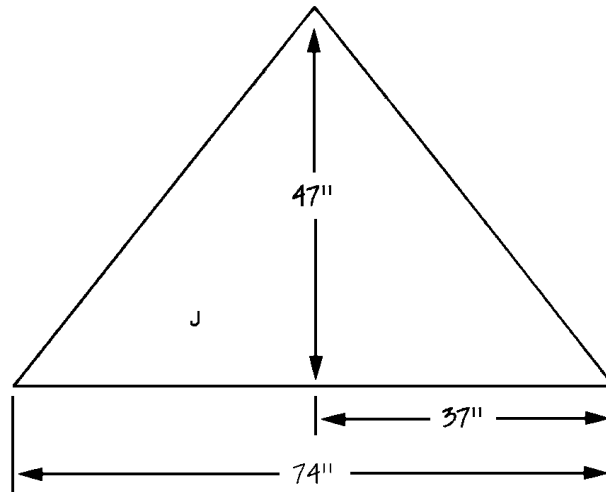

Figure 12
1. Cut four Roofs (J) from $\frac{1}{2}$ plywood, following the dimensions given in *Figure 12*.